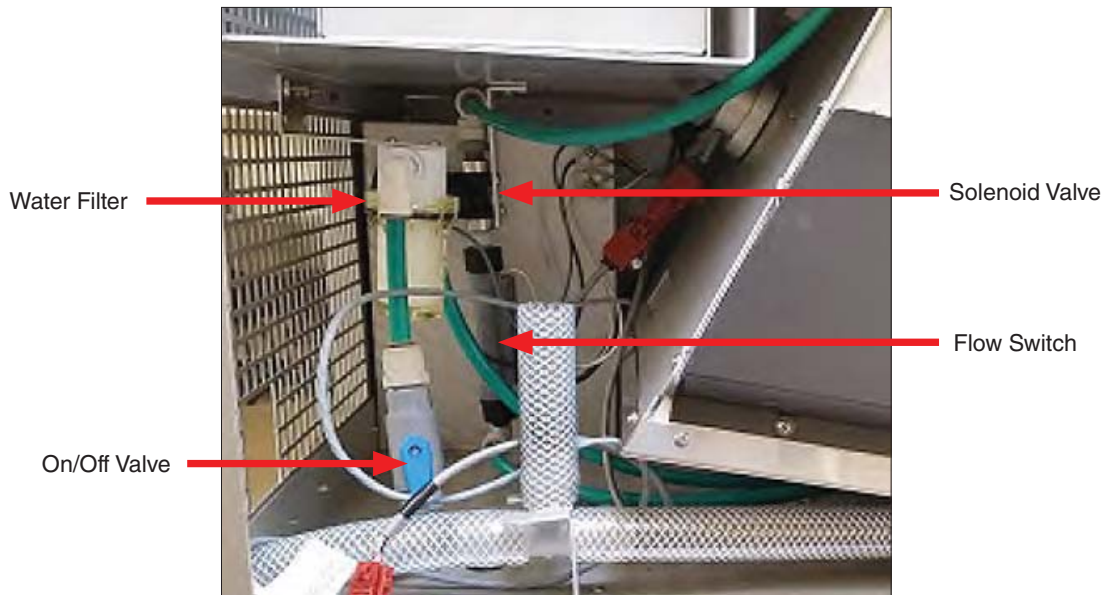

Figure 7d: Left side access panel removed to show spray system components.
- Located behind test chamber (Figure 7d)